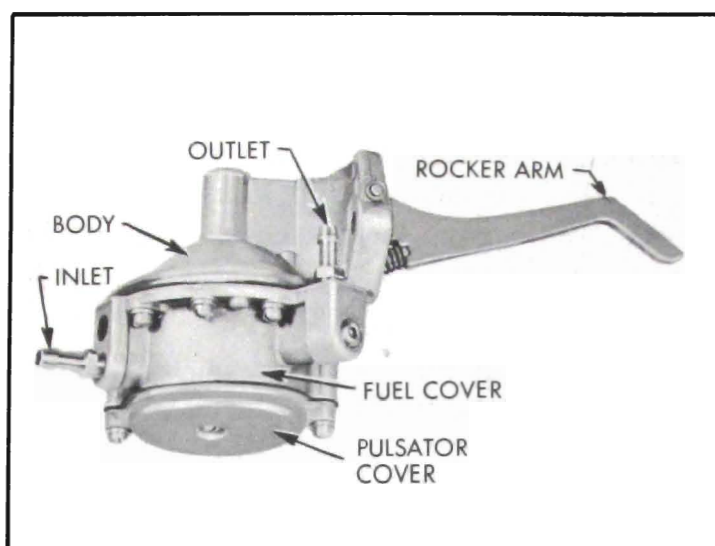

Figure 3-14—Location of Pump Parts
1. Mark edges of fuel cover and pump body with file so that cover may be reinstalled in its original position on body. See figure 3-14.